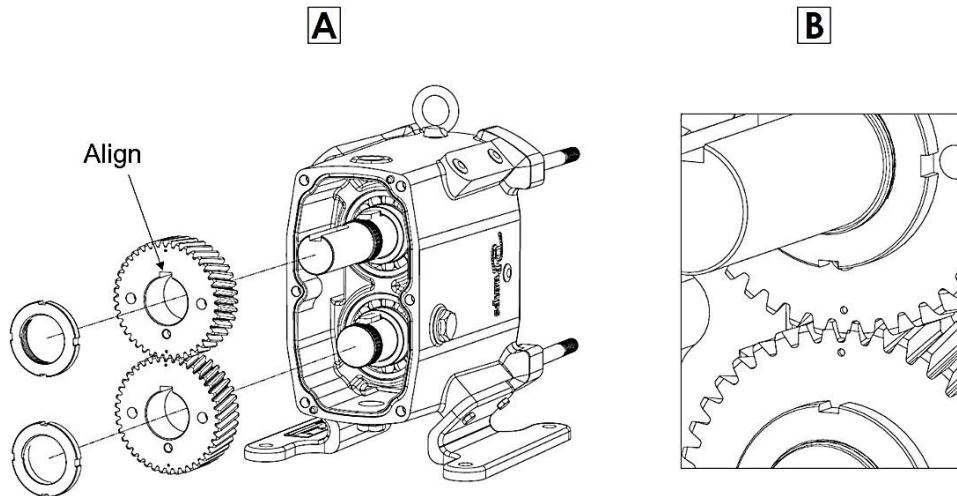

**Figure 54: Gear Spacer and Key Installation**
6) Align the shafts so that the gear key slots are pointing up. Slide the gear spacers on the shafts and insert the gear keys in the key slots (Figure 54).